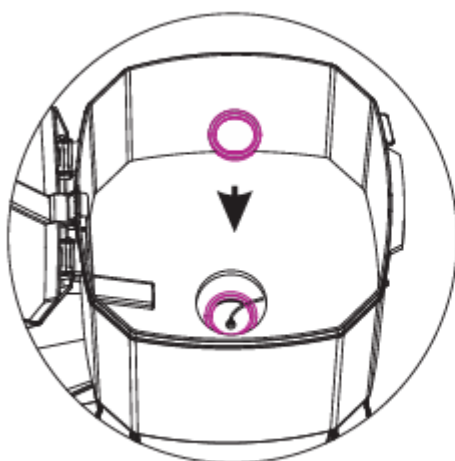

Fig. 1
- When using 1–5 mm feed, manually install the retaining ring to reduce the feeding amount (see Fig. 1).
1. Turn on the device by pressing the power switch located on the case of the device. The default state interface will be displayed as depicted in figure 1. Use the "SET" button to adjust the clock of the device. Briefly pressing the "SET" button thereby will access the hour settings while pressing it a second time will access the minute settings. Use the "UP" and "DOWN" buttons to increase or decrease the respective units.